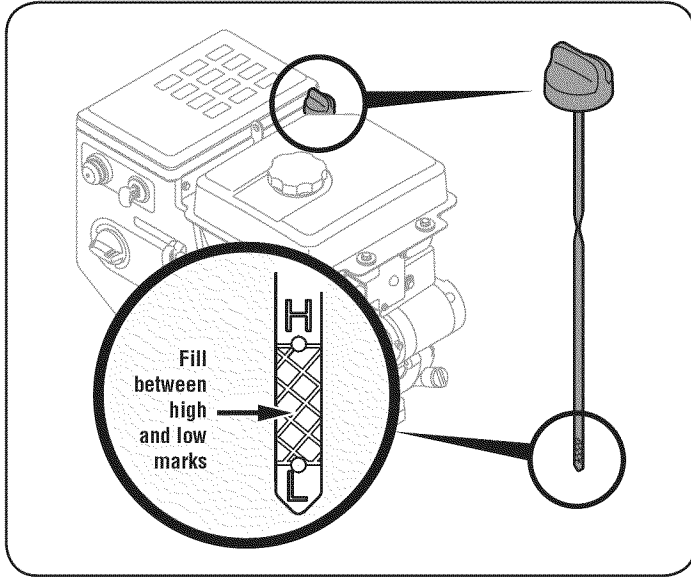

Figure 11
- Keep oil level between "H" and "L" marks on dipstick. See Figure 11.
1. Remove the oil filler cap/dipstick and wipe the dipstick clean. See Figure 11.
3. Remove the oil filler cap/dipstick. If the level is low, slowly add oil until oil level registers between high (H) and low (L), Figure 11.